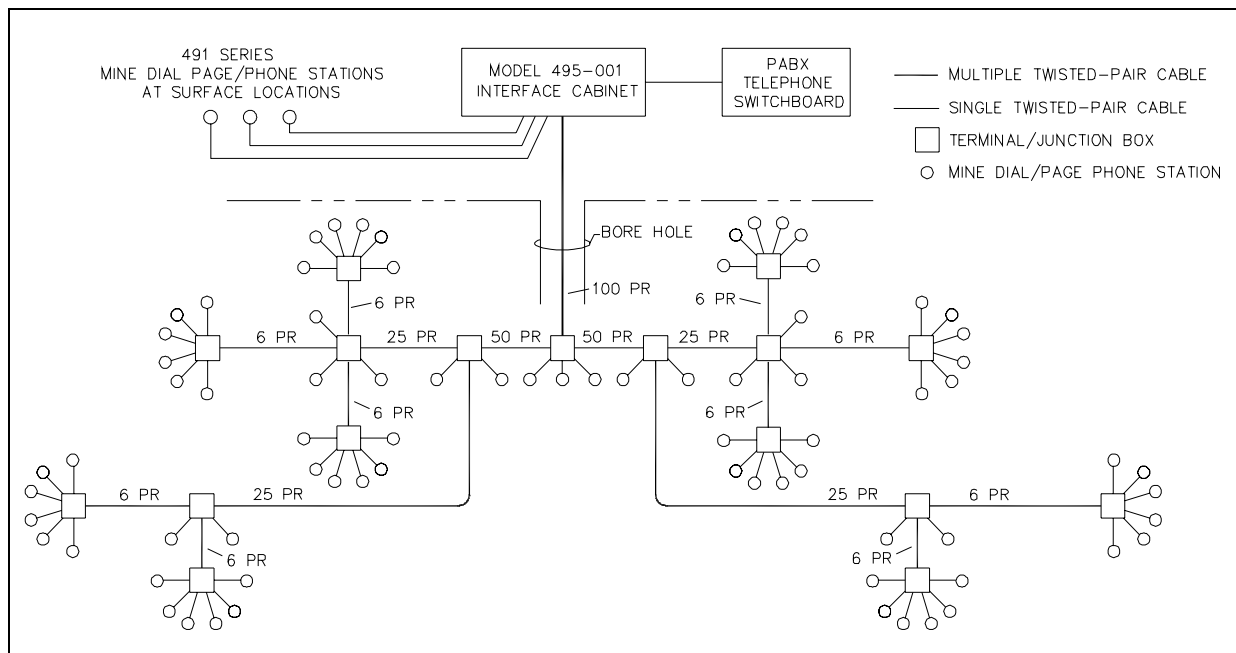
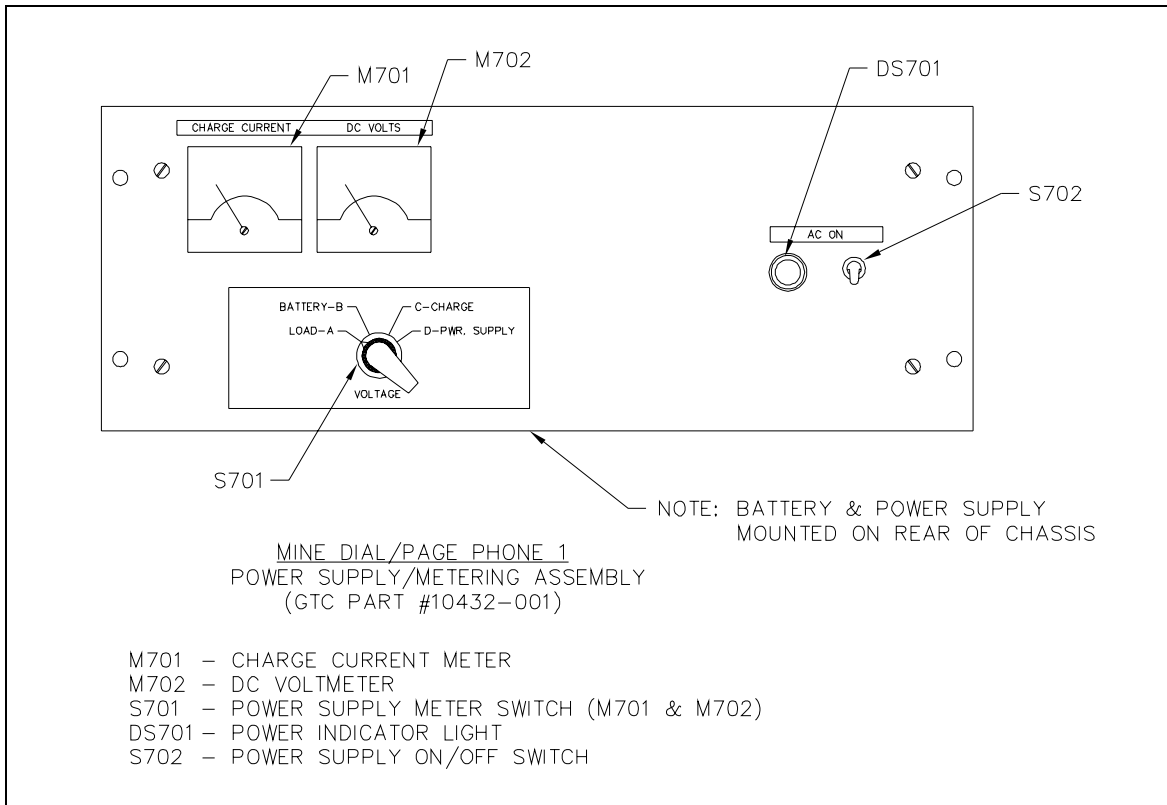
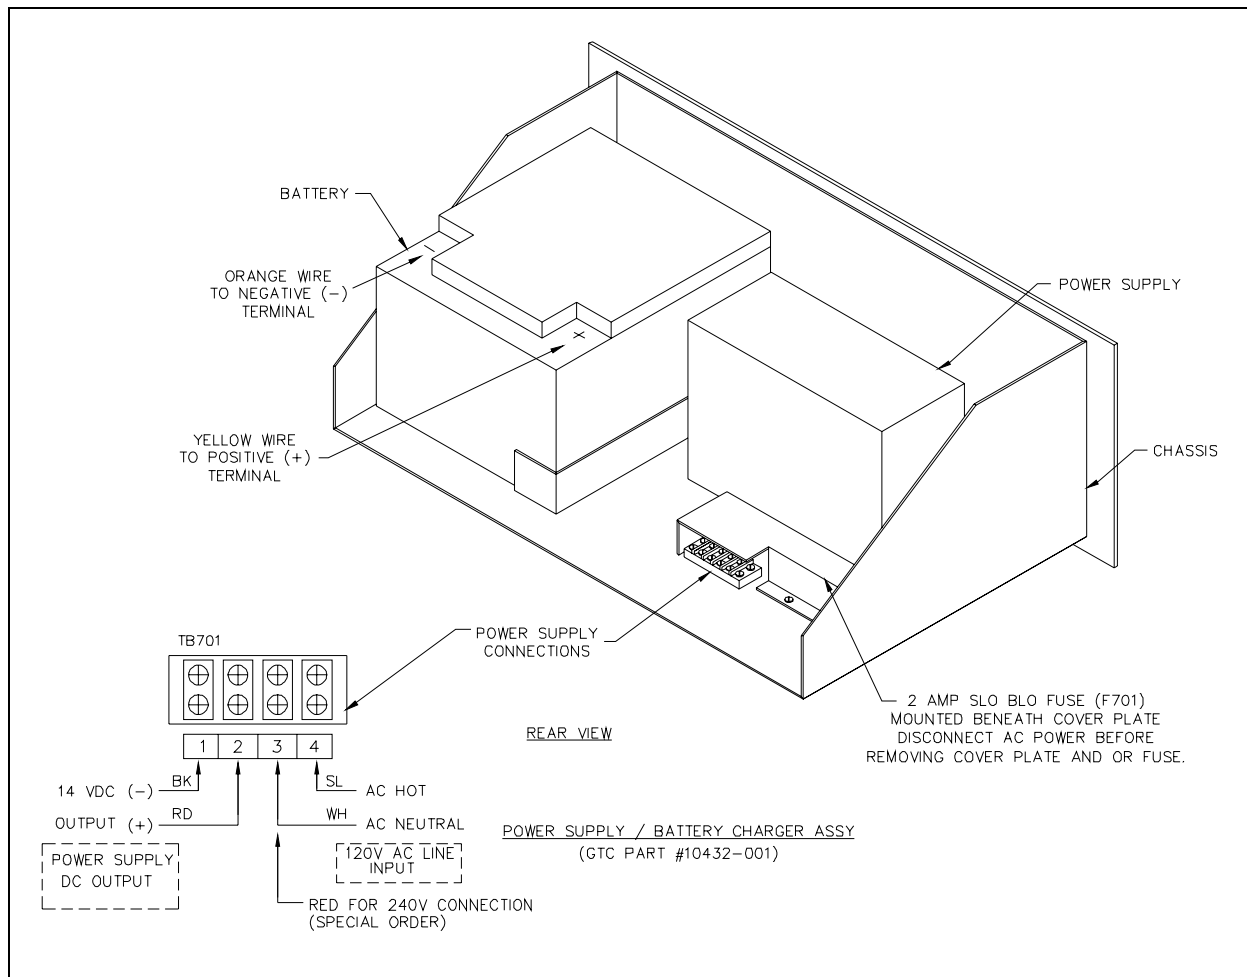

Figure 5. Typical 80-Station Mine Dial Phone Cable System
Figure 8. Power Supply
Figure 9. Power Supply/Battery Charger Assembly
DC power to operate the interface circuitry ordinarily comes from an ac-operated power supply located within the Power Supply/Metering Panel assembly. See Figure 8 and Figure 9. Space is provided within this assembly for a rechargeable, non-liquid, lead acid 12 V battery. The battery backs up the system in the event of power supply failure or ac power source failure. The Power Supply/Metering Panel assembly contains meters and switches to indicate the state of the power supply and battery. The assembly occupies the space of a 7 × 19-inch rack panel.
The cable system for a typical 80-station system is shown in Figure 5. The drawing shows the use of 100, 50, 25, and 6-pair cable. Spare conductor pairs in all main distribution cables provide for future expansion. Cable with an integral messenger wire, commonly called “figure 8 cable,” simplifies installation.
**AC Power Connection - 120 V ac, 60 Hz, should be brought into the receptacle box at the rear near the floor of the cabinet. All ac-operated circuits within the interface cabinet are pre-wired to this receptacle box. The power line to the interface cabinet should have an independent 15-amp (minimum) line. Be sure the AC ON switch on the front panel of the Power Supply/Metering Panel Assembly is in the down (off) position before applying ac power. See Figure 8.**
Install the stand-by battery in the rear of the Power Supply/Metering assembly as shown in Figure 9. Connect the orange wire to the battery negative (-). Allow the yellow wire to remain disconnected until power supply has been checked out.
Set S701 to the D-PWR. SUPPLY position and turn on (up position) S702 on the Power Supply. See Figure 8. The amber indicator light (DS701) on the front panel should be lit. The dc voltmeter (M702) of the front panel should indicate approximately 14 V dc and the charge current (M701) meter should read 0 amp current flow.
After the power supply/battery charger has been installed and checked out, connect the yellow wire from the Power Supply/Metering assembly to the battery positive (+) terminal as shown in Figure 9. Turn the voltmeter switch to the “B-Battery” position. The voltmeter (M702) should read about 12 V.
Refer to Figure 8. If the green RESET INDICATOR lamp (**CR504**) on the DC Power Transfer assembly panel is not lit:
4. Turn switch to D-PWR.SUPPLY position. If the DC VOLTS meter now indicates zero or near zero voltage, even with the presence of ac line voltage, the internal power supply may be defective, or the ac fuse may be blown. The ac line fuse is a 2 amp slo-blo (**F701**) fuse located in the rear of the Power Supply Metering assembly under a cover plate. Refer to Figure 9. The cover plate must be removed to access the fuse.